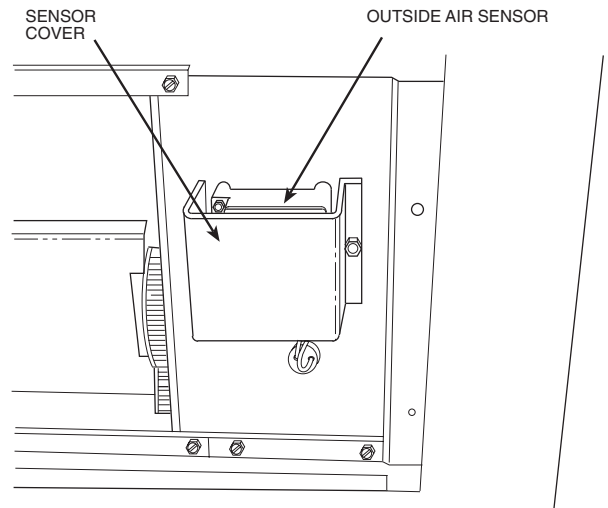

Fig. 21 — Outdoor-Air Sensor Location
1. Remove the outdoor air temperature sensor cover. See Fig. 21. Save cover and screws.